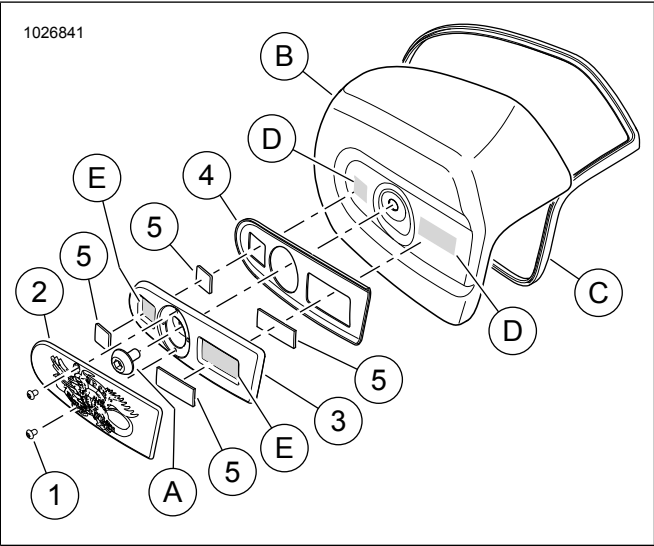
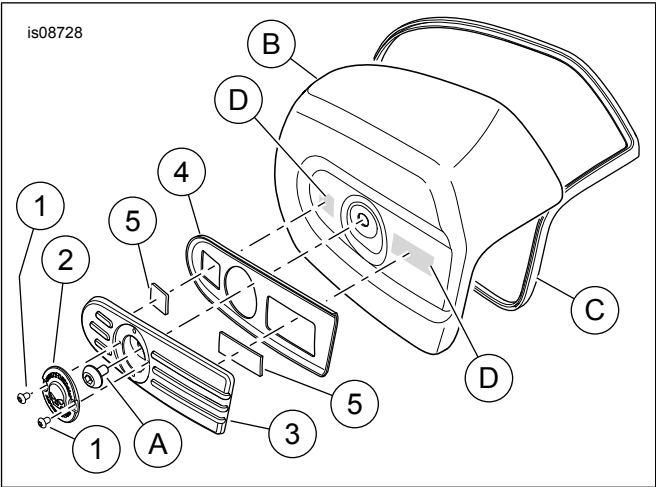
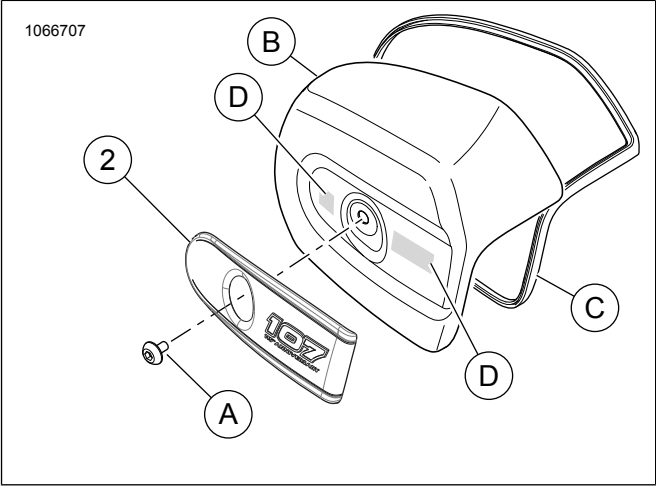

Figure 1. Service Parts, Live to Ride Air Cleaner Trim Kit
Figure 2. Service Parts, Air Cleaner Trim Kits With Gaskets
Figure 3. Service Parts, Air Cleaner Trim Kits Without Gaskets
See Figure 1, Figure 2, Figure 3 and Table 1.
1. See Figure 1. Remove the original equipment (OE) insert from the air cleaner cover (B).
- a. Push a thin-blade putty knife between trim (3) and air cleaner cover while pulling trim away from cover.
See Figure 3. Insert without gasket the OE screw (A) does not have to be removed.
1. See Figure 1. Thoroughly clean area (D) with a 50:50 mix of rubbing alcohol and water. Allow to dry completely.
2. Align the gasket (4) to the back side of the trim plate (3).
3. Leave Dual Lock fastener (5) mating halves assembled to the trim plate. Remove tape protecting adhesive on exposed face of each fastener.
1. See Figure 2. Thoroughly clean area (D) with a 50:50 mix of rubbing alcohol and water. Allow to dry completely.
2. Leave (if applicable) Dual Lock fastener (5) halves assembled to the trim plate. Remove tape protecting adhesive on the exposed face of each fastener.
1. See Figure 3. Thoroughly clean area (D) with a 50:50 mix of rubbing alcohol and water. Allow to dry completely.
2. Remove tape protecting the adhesive pads on the inside of the decorative insert (2).
3. Visually align decorative insert with cover (B). Press firmly in fastener area (D) to secure. Hold for 30 seconds.